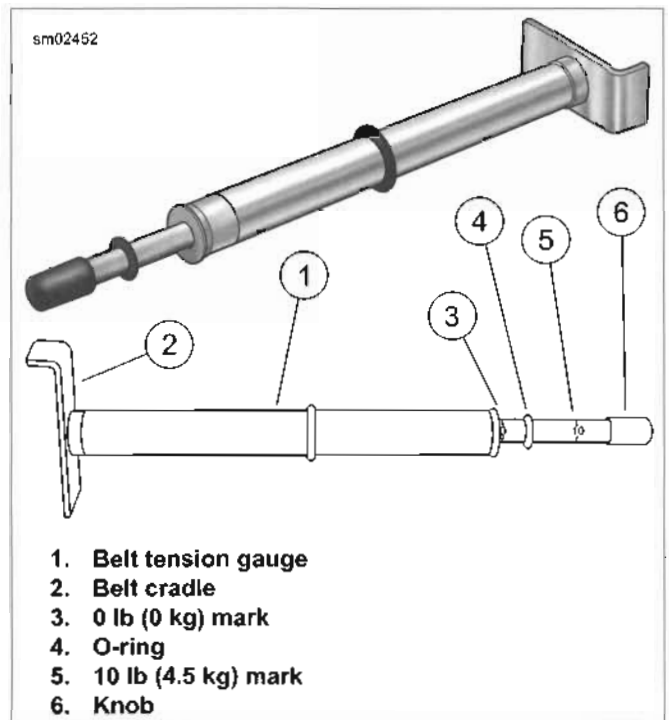

Figure 1-22. Belt Tension Gauge
2. See Figure 1-22. Obtain H-D BELT TENSION GAUGE (Part No. HD-35381-A).